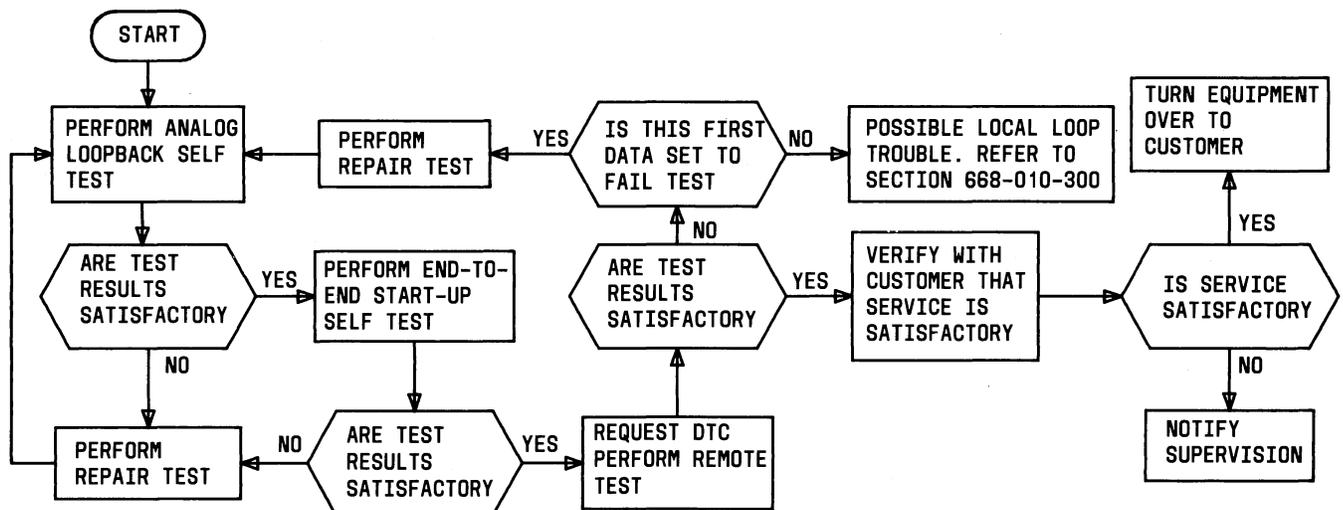

Fig. 2—Installation Test Sequence
**2.01** This part provides the sequence in which tests are to be performed following installation of the data set. This test sequence (Fig. 2) provides a method of verifying that the installation is satisfactory. Before proceeding with the tests, verify that the local loop meets the requirements specified in Section 314-205-501.